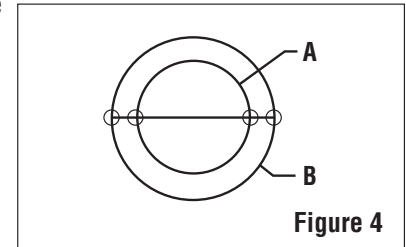

Figure 4
- Align Holder/Array assembly over screw holes in heat sink. See table for screw diameters. (Figure 4) Install M3 #4 or #5 pan head screws into luminaire.